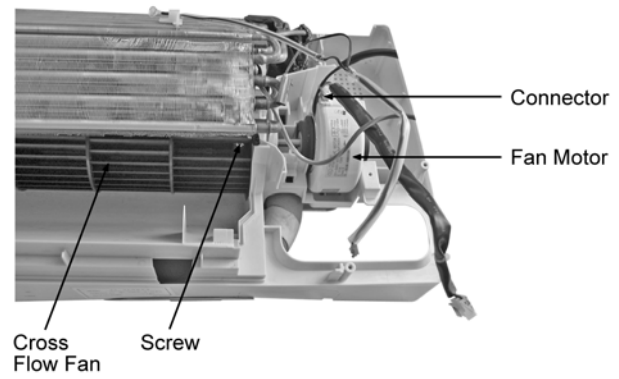

Fig. 12
19. Remove the screw at the Cross Flow fan. (Fig. 12)
To reinstall the Fan Motor, please adjust the connector location is positioned 45° with Fan Motor before fixing Control Board Cover. (Fig. 12)